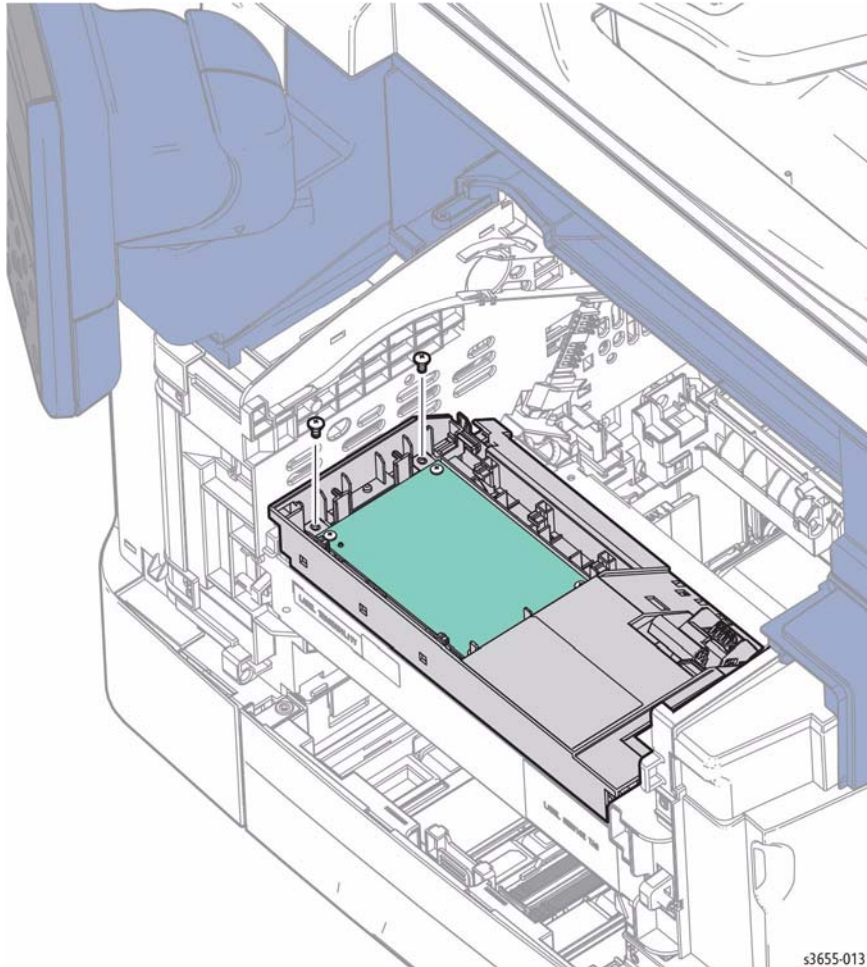

Figure 2 Release the MCU Housing
5. Refer to Figure 2 to locate and remove 2 screws (silver, M3, 6mm) that secure the MCU Housing to the chassis.